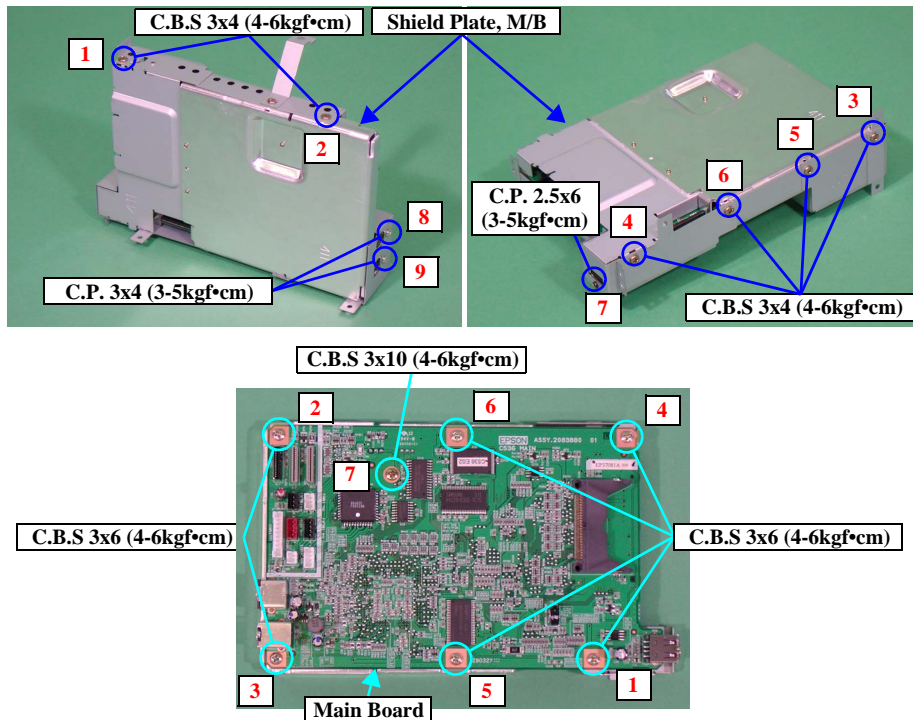

Figure 2-16. Removing "Main Board" (2)
- Screw in the order as shown in Figure 2-16.